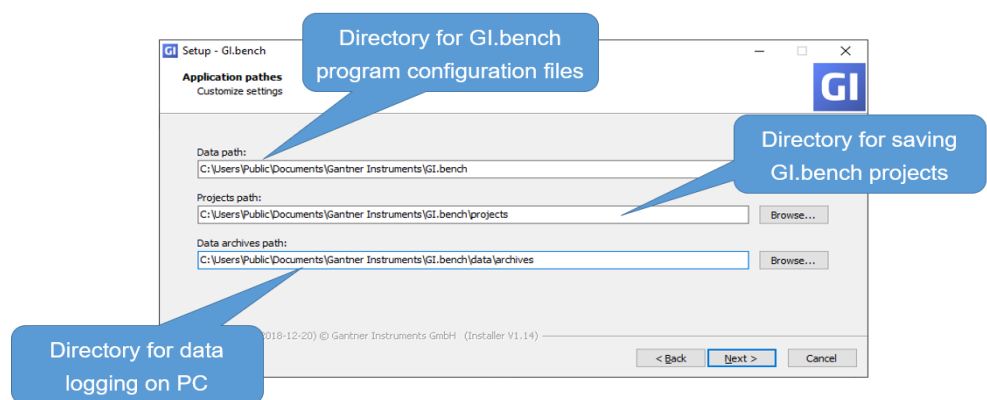

Fig. 6-2 Specifying *GI.bench* directories during initial program installation; can edit via the *GI.service* context menu
- Follow the instructions in the setup program to select the installation directory for the software (Fig. 6-2).